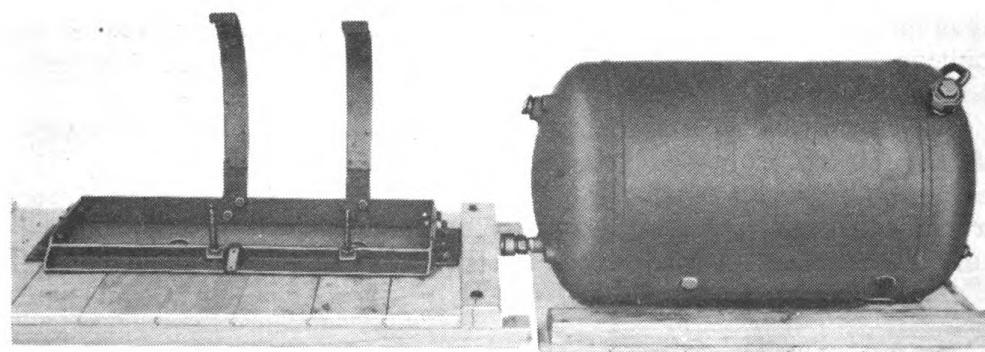

Fig. 12. Fuel container removed, showing back fuel container straps on baseplate of sponson fuel group.
- (16) Lift out fuel container (fig. 12).